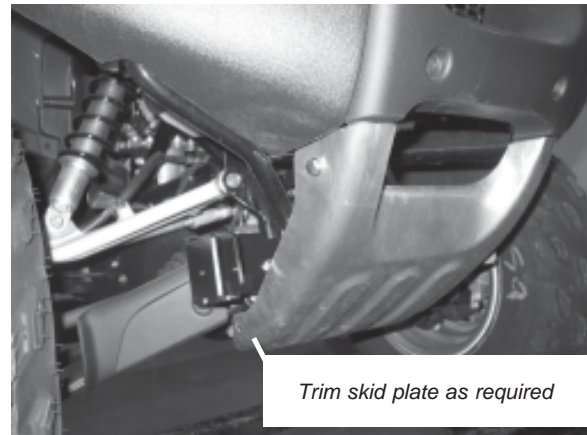
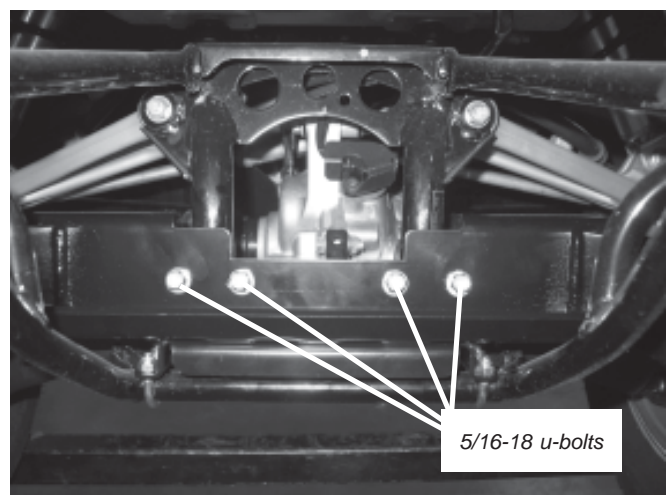

Figure 7
Figure 12
7. Once mounts are secured in place, replace front aluminum skid plate on vehicle, as shown in Figure 7. Some trimming may be required in the area of the plow mount to allow skid plate to bolt up to original mounting location.
4. Install 5/16-18 u-bolts around vehicle frame and through back side of plow mount assembly as shown in Figure 12. Torque hardware to 17lb. ft. (22.5 N-m). Once mount is secured in place, replace the front aluminum skid plate on vehicle, shown in Figure 7 of previous section. Some trimming may be required in the area of the plow mount allowing skid plate to bolt up to original mounting location. See Figure 8 of previous section for completed installation.